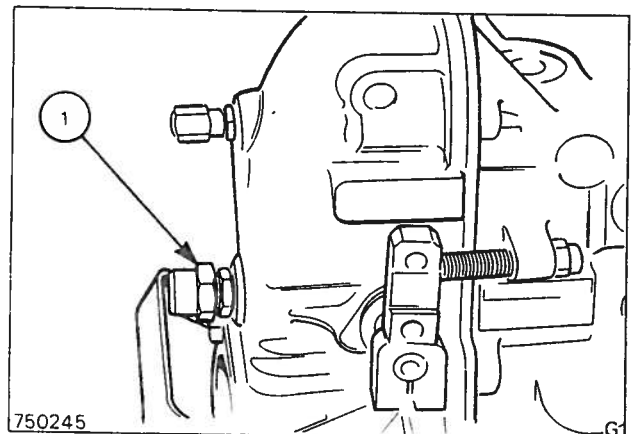

Fig. 71 Location of supplementary idling screw
3. Screw out the supplementary/bumper spring idling screw until it ceases to affect the idling speed, Fig. 71.